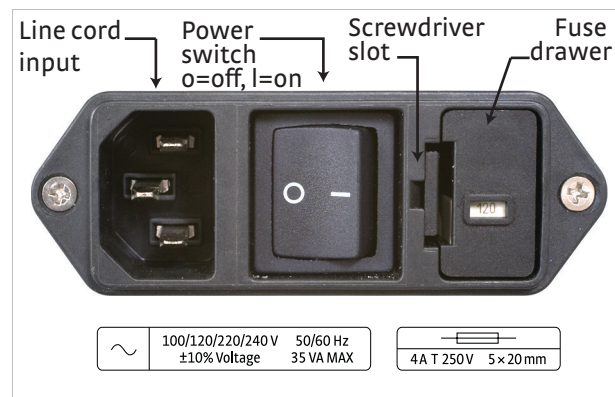

FIGURE 8-1 Line input assembly
1. Identify the line input assembly on the instrument rear panel. See FIGURE 8-1.
2. Turn the line power switch OFF (O).
10. Turn the line power switch On (I) Refer to FIGURE 8-1.